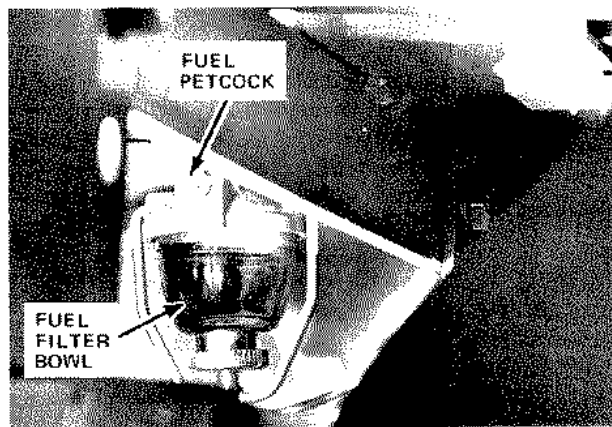

Figure 5
9. Check fuel petcock to be sure it is fully open. See Figure 5 for location.